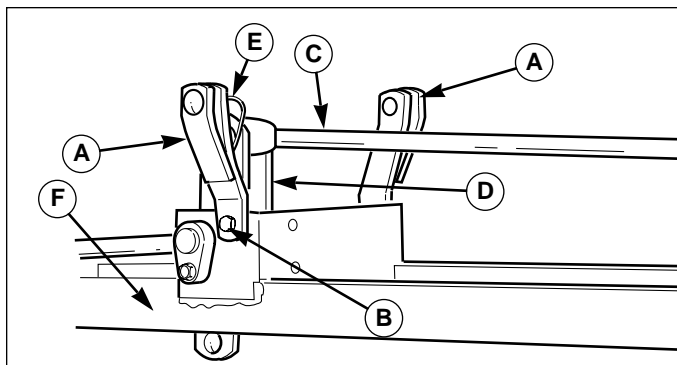

Figure 12. Assemble Hitch
1. Attach the hanger brackets (A, Figure 12) to the hitch assembly (F) using 3/8-16 x 1" capscrews and nylock nuts (B). Do not torque the nuts. The hanger brackets (A) should be able to pivot freely.
2. Attach the lift rod (C, Figure 12) to the hitch lift arm (D) using one 1/2" x 2" flat head clevis pin and safety clip (E).